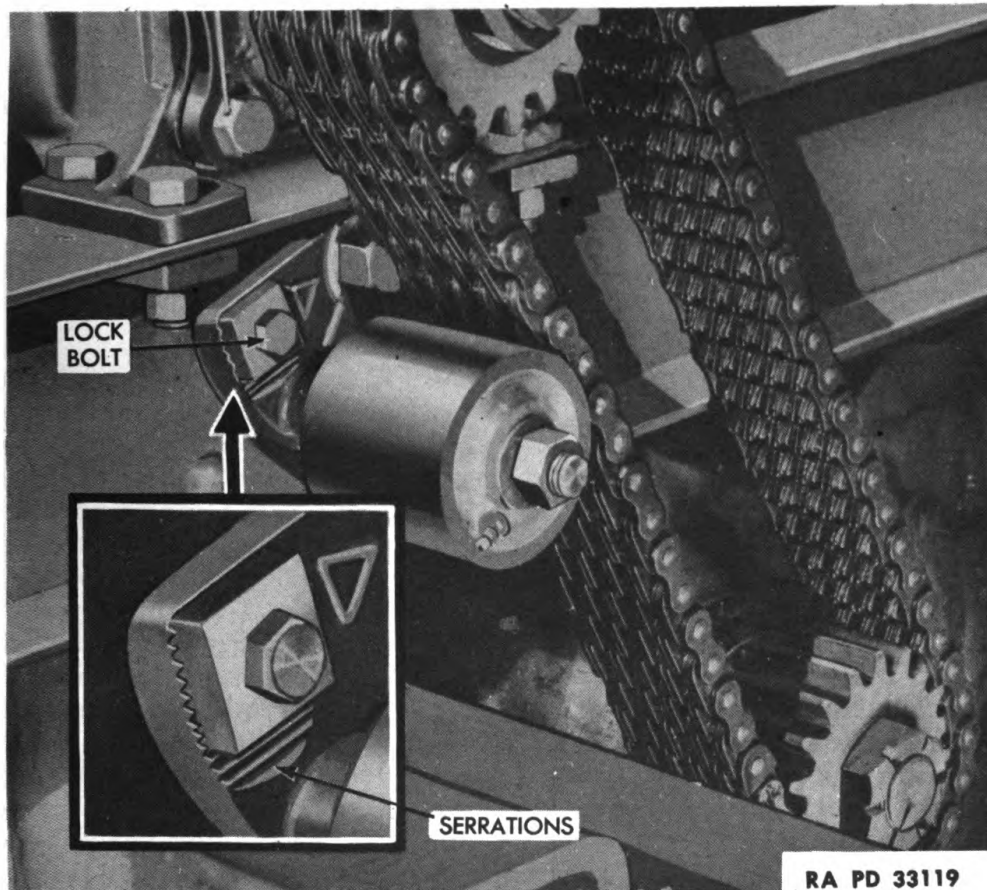

Figure 125—Winch Drive Chain Adjustment
(2) **DRIVE CHAIN REPLACEMENT** (fig. 125). Loosen the idler pulley lock bolt, and slide the pulley away from chain. Remove cotter pins from chain removable link pins, and remove link from chain. Place the chain over the sprockets, install the removable link, and install new cotter pins in the link pins. Push the idler firmly against the chain, and tighten the lock bolt.
d. Winch Removal. Loosen the idler pulley adjusting bolt, and slide the pulley away from the chain (fig. 125). Remove the cotter pins from removable chain link, and remove the link. Disconnect the winch clutch and brake control rod from clutch shifter yoke and lever, and remove control rod. Remove the four mounting sill to frame attaching bolts. Place a sling around the winch drum, and connect the sling to a chain hoist or crane; slide the hoist to the right side of body; raise the left end of winch, and work it up and to the left until end of shaft clears side of body. Lower the chain hoist, disconnect it from sling, and remove sling from winch.